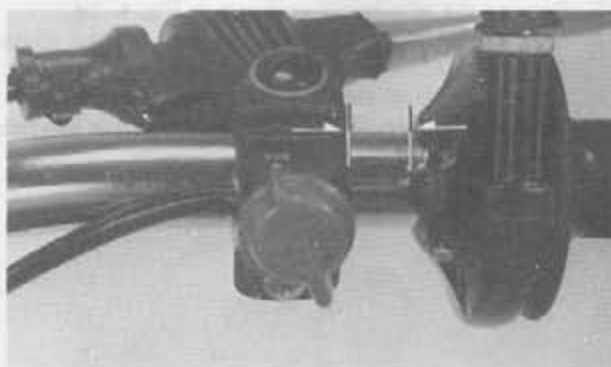

Fig. 4-38
4. Insert the throttle cable housing, making sure that the distance between the housing and bracket as shown Fig. 4-38.